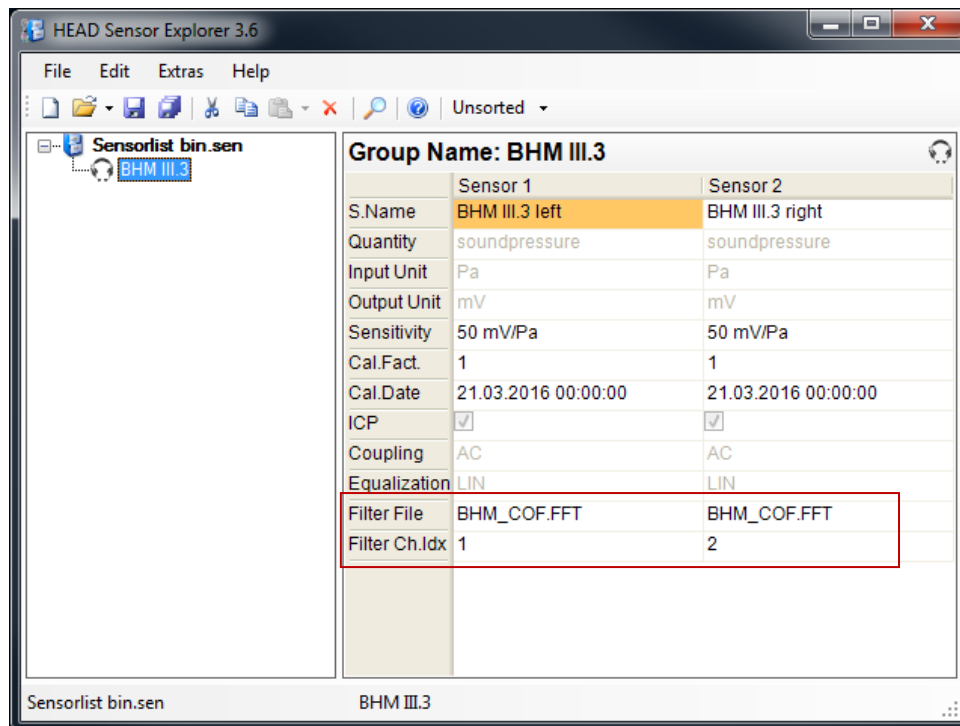

Figure 3: Definition of a BHM sensor in the Sensor Explorer
- Another possibility is to configure the equalization via the software used. To do this in the HEAD Sensor Explorer³, the custom equalization filter for the BHM must be included in the **Filter File** field when defining the BHM sensor (see figure 3, next page). This custom equalization filter file is included on the equalization CD shipped with the BHM and must be entered in the corresponding fields of the Sensor Configuration for both channels separately. In recordings made with ArtemiS SUITE Data Acquisition Module (HEAD Recorder), this custom filter with the ID equalization is automatically used for the BHM channels. An additional equalization activated via the **Equalization** field would cause double filtering and distort the recorded signal. To prevent this, this field is grayed out automatically as soon as an equalization filter has been entered in the **Filter File** field. Furthermore, when generating a new BHM sensor, the sensitivity of the microphones can be entered in the field **Sensitivity**. The correct value can be found in the calibration certificate, which was delivered with the BHM.